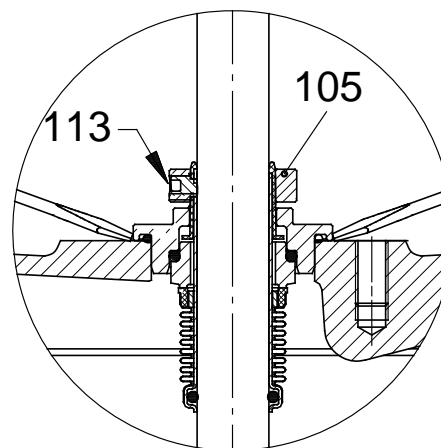

Fig. 4 Shaft seal
Clean the shaft end. Loosen the three screws (pos. 113) so that they do not touch the shaft. See fig. 4.
Loosen the shaft seal (pos. 105) from the pump head using two screwdrivers. See fig. 4. Pull it off the shaft.
Loosen the screws (pos. 113), see fig. 4, and the shaft will drop slightly. Lift the shaft up again to top position using the lifting tool (pos. F), and tighten the screws (pos. 113), see fig. 4, on the shaft seal. Remove one of the adjusting forks (pos. D) and the lifting tool (pos. F).
Clean the shaft end. Loosen the three screws (pos. 113), see fig. 4, so that they do not touch the shaft.
Press the pump shaft down, and fasten the shaft seal on the shaft with the screws (pos. 113). See fig. 4.